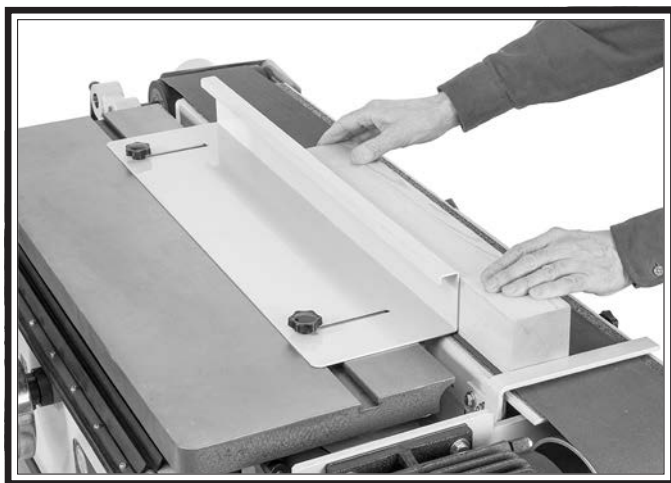

Figure 52. Typical face sanding operation.
2. Support workpiece against miter gauge, fence, or backstop and slowly feed workpiece into moving belt with light, even pressure. Maintain control of workpiece, as shown in **Figure 52**. **DO NOT** force workpiece against belt.